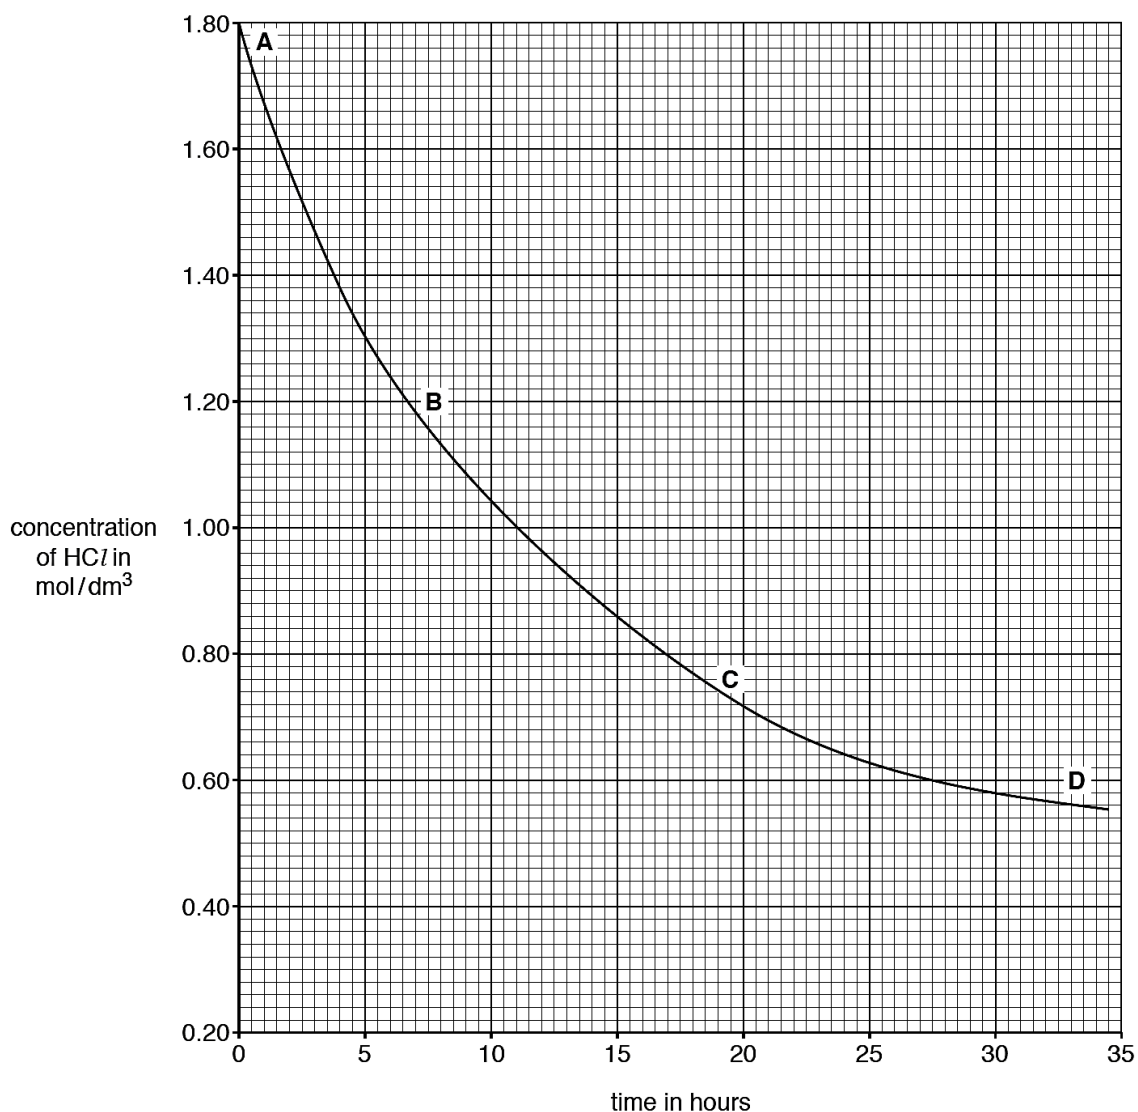

Fig. 3.1
- (b) Fig. 3.1 shows how the concentration of hydrochloric acid changes as the reaction proceeds.
- (ii) With reference to the graph in Fig. 3.1, explain clearly whether hydrochloric acid or methanol is the limiting reactant.
- (iii) Explain why point A in Fig. 3.1 has the fastest rate of reaction.
- (i) Draw on Fig. 3.1, the curve that you would expect if the experiment was repeated with hydrochloric acid at a higher temperature.